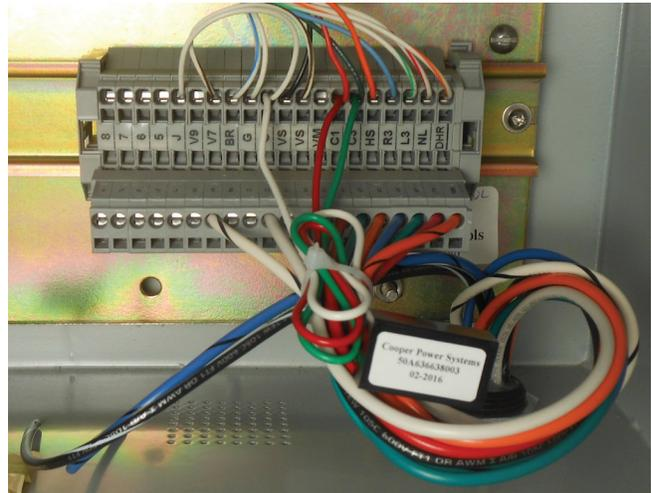

Figure 11. CT protection device installed in dead-front style control box.
B. In a dead front-style control box (Figure 11):